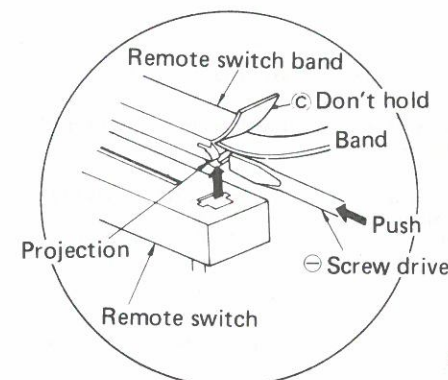

Fig. 12
1. Press the band with a screw driver in the direction shown in Fig. 12.
2. Remove the band, first at point (A) as shown in Fig. 13. (Care should be taken not to hold (C) in Fig. 12.)
3. Then remove the band at point (B).
4. When re-attaching the band start at point (B).